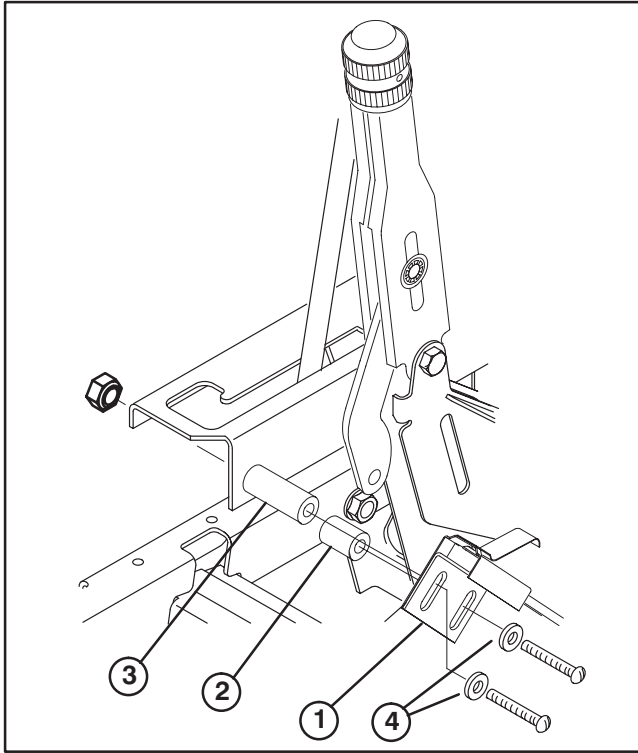

Figure 6
28. Loosely mount parking brake switch to vehicle console with (2) spacers, #10–24 screws, washers and nuts, as shown in figure 6. Different length spacers are used to mount switch level as shown in figure 6.